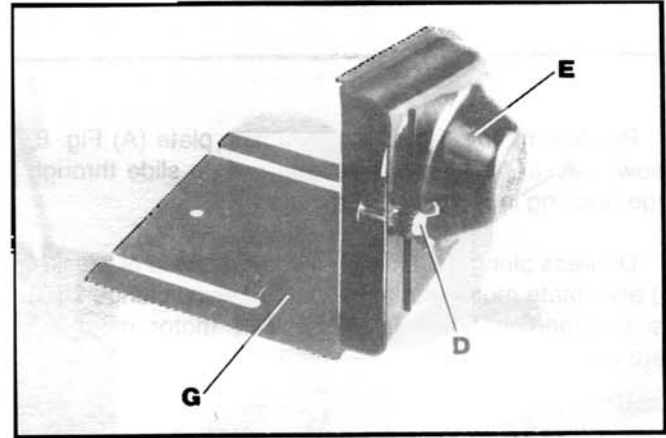

Fig. 12
- 3 Remove wing nut and external tooth lockwasher (D) Fig. 12, and outer cover (E) from belt and pulley guard (F).